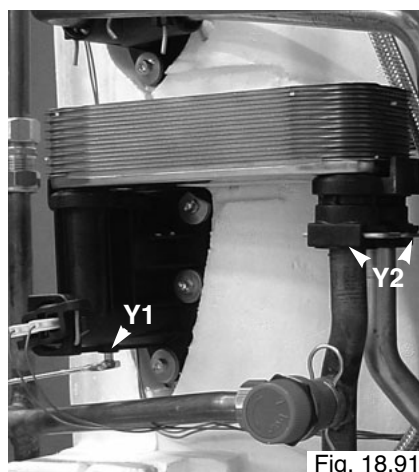

Fig. 18.91
3. Remove the screw "Y1" with a N°8 spanner (see Fig.18.91);
4. Remove the two clips "Y2" on the right part (see Fig.18.91);